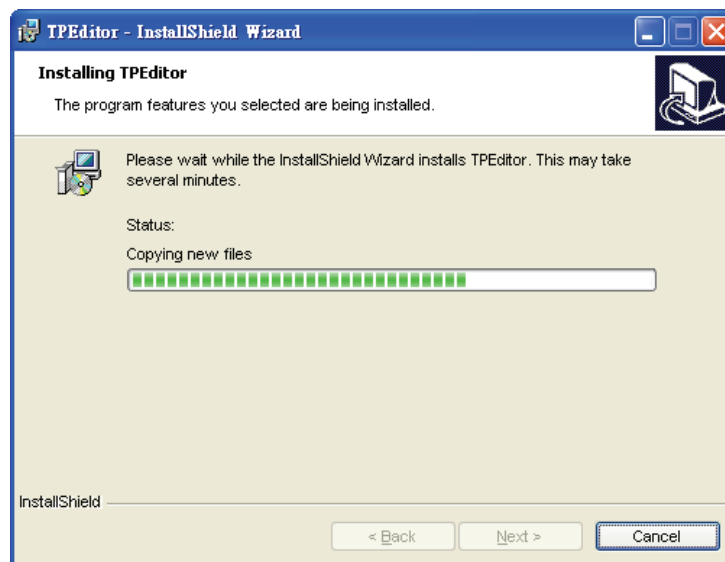

Figure 1-8
- Then, click **Install** to start TPEditor installation (Figure 1-8).